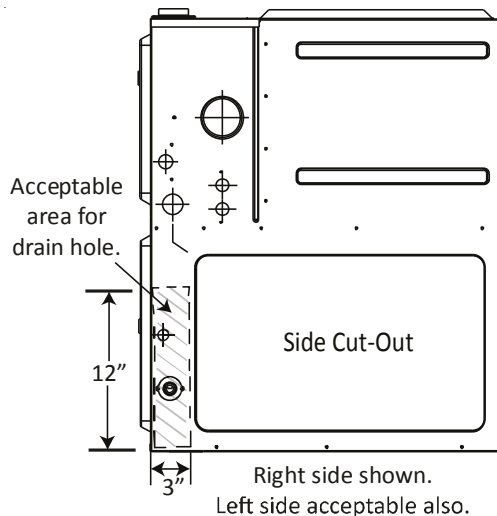

Figure 22
The trap and factory installed hoses remain as shipped. The furnace drain may exit either the right or left side of the furnace cabinet. Both sides of the cabinet have two .875" diameter holes which can be used interchangeably for drain and low voltage wiring purposes. If a higher drain exit is needed, a .875" diameter hole may be added in the area shown in Figure 22. Any unused cabinet opening must be sealed. Do not allow drain hose to sag or trap water.
1. Locate and install the 45° pipe / hose drain coupling from the outside of the cabinet (barbed end goes in the cabinet) through hole in the right side of the cabinet and secure with two field supplied #8 self-tapping screws (see Figure 22).